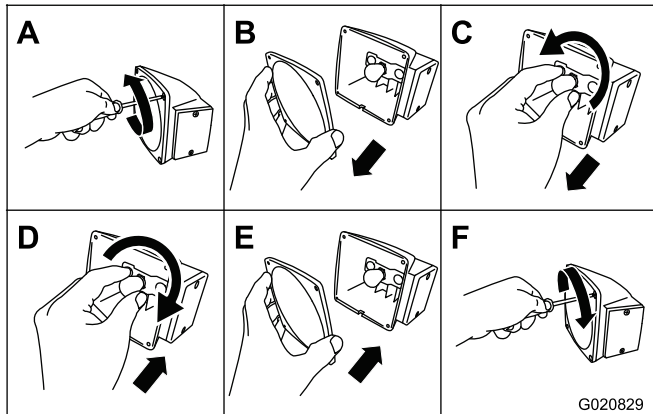

Figure 17
1. Use a screwdriver to remove the 4 screws from the large square lens on the light (Figure 17).
2. Remove the lens (Figure 17).
3. Push and twist the bulb counterclockwise to remove it from the socket (Figure 17).
4. Push a new 1157 bulb into the socket and then twist it clockwise (Figure 17).
5. Install the lens and the 4 screws (Figure 17).